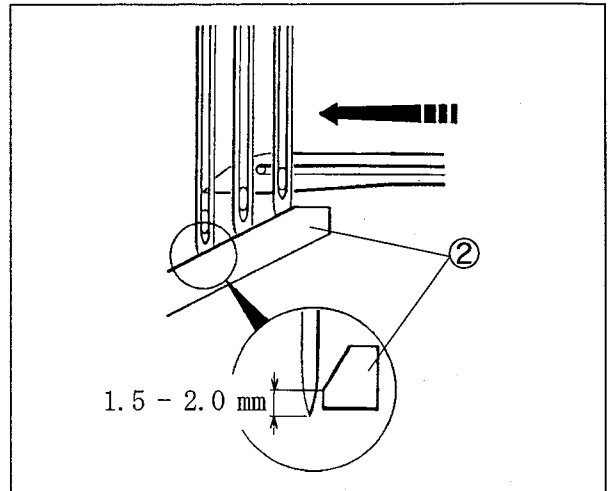
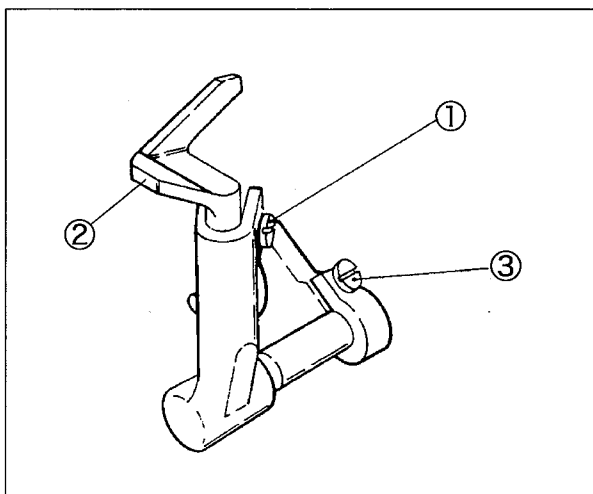

Fig. 59
Fig. 60
- (1) Turn the handwheel clockwise until the looper tip meets the center of the left needle. (Fig. 59)
- (2) Loosen the screw ①. Adjust the height from the needle tip to the angular part of the needle guard(front) ② to 1.5 - 2.0 mm.
- (3) Tighten the screw ① securely. (Fig. 60)
- (5) Tighten the screws ① and ③ securely. (Fig. 60)